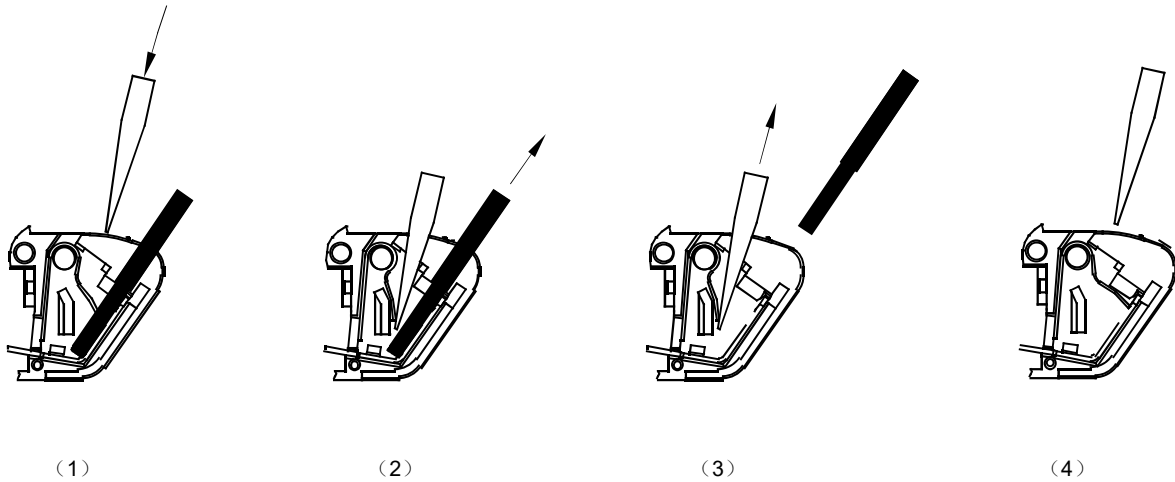

Figure 5
- The method of Wiring as stitching in figure 5.